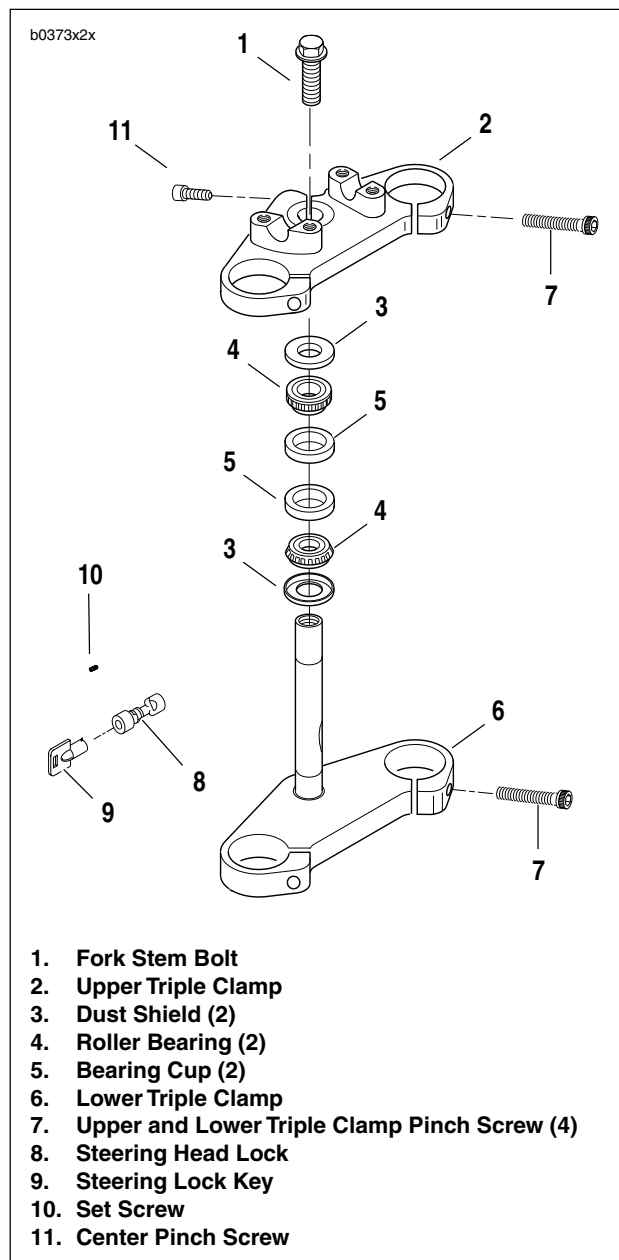

Figure 2-56. Fork Stem
2. See Figure 2-56. Remove all upper triple clamp screws (7, 11), fork stem bolt (1) and upper triple clamp (2).
3. Remove upper dust shield (3) and roller bearing (4).
- a. Remove two lower triple clamp screws (7). Pull the lower triple clamp (6) downward.
- d. Remove lower dust shield (3).
5. If replacement of bearing cups (5) is necessary, drive cups from steering head using STEERING HEAD BEARING RACE REMOVER (Part No. HD-39301A) and UNIVERSAL DRIVER HANDLE (Part No HD-33416).
6. Remove set screw (10) to pull steering head lock (8) from frame.
1. See Figure 2-56. Clean the dust shields (3), bearing cups (5), fork stem and lower triple clamp (6) and frame with solvent.
2. Carefully inspect bearing races and assemblies for pitting, scoring, wear and other damage. Replace damaged bearings (4) as a set (3, 4 and 5).
3. Check the fork stem and lower triple clamp (6) for damage. Replace if necessary.
2. See Figure 2-56. Install steering head lock (8) with set screw (10).
3. Liberally coat the bearing cones (4) with grease using WHEEL BEARING PACKER TOOL (Part No. HD-33067). Work the grease into the rollers.
- a. Place lower bearing dust shield (3) over fork stem.
- c. Press bearing (4) with small end up onto fork stem and lower triple clamp (6). Use the pipe as a press-on tool.
5. Insert lower triple clamp (6) through the steering head. Install the upper bearing (4) with small end down and dust shield (3) onto fork stem.